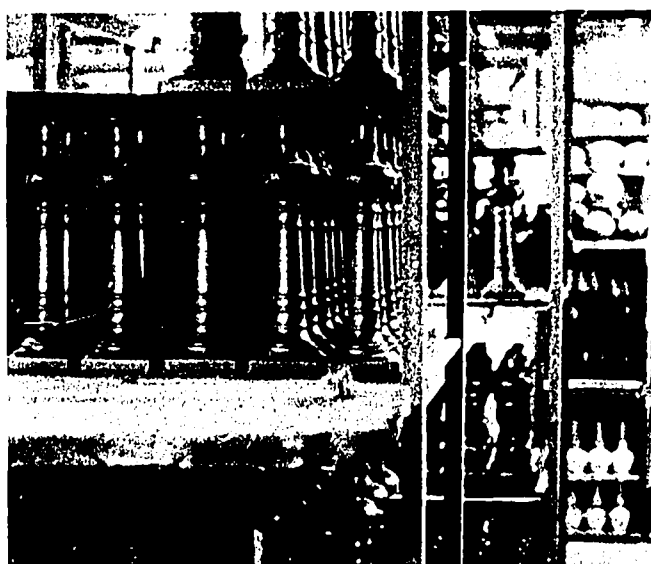

Fig. 75-1. Good production control will make sure that the right number of lamps are made.
1. The right *production rate*. This means that the right number of lamps will come off the assembly line each day, Fig. 75-1.